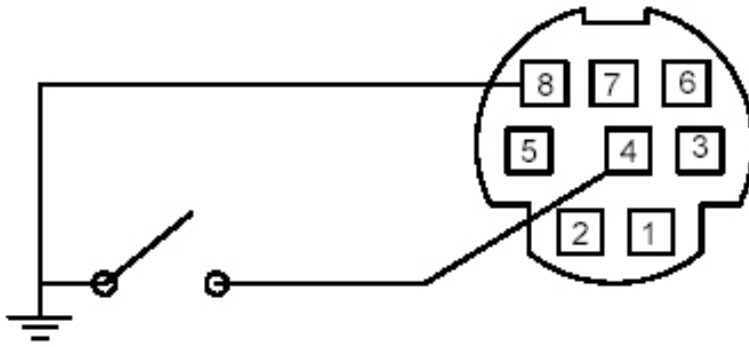

Figure 7. Proper Set Up for Remote Tare on Gauges (Momentarily ground Pin 4 to Tare)
**Note:** A remote tare can be achieved by momentarily grounding pin 4 to tare as shown in Figure 7 on page 12.